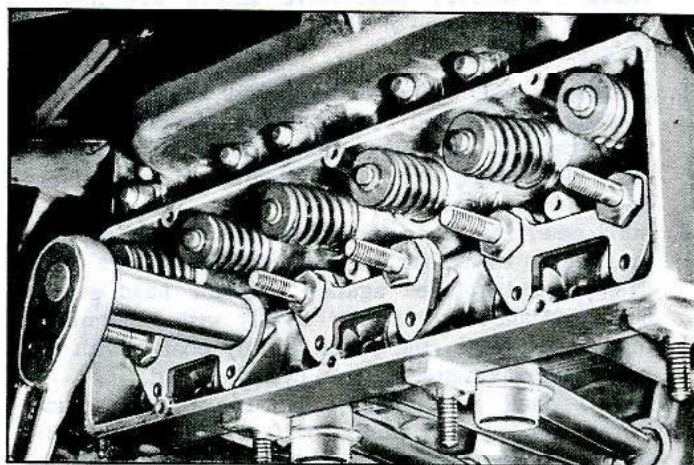

Fig. 32—Rocker Arm Studs and Push Rod Guides
4. Remove rocker arm studs and push rod guides, then remove and discard rocker arm stud "O" ring seals (fig. 32).